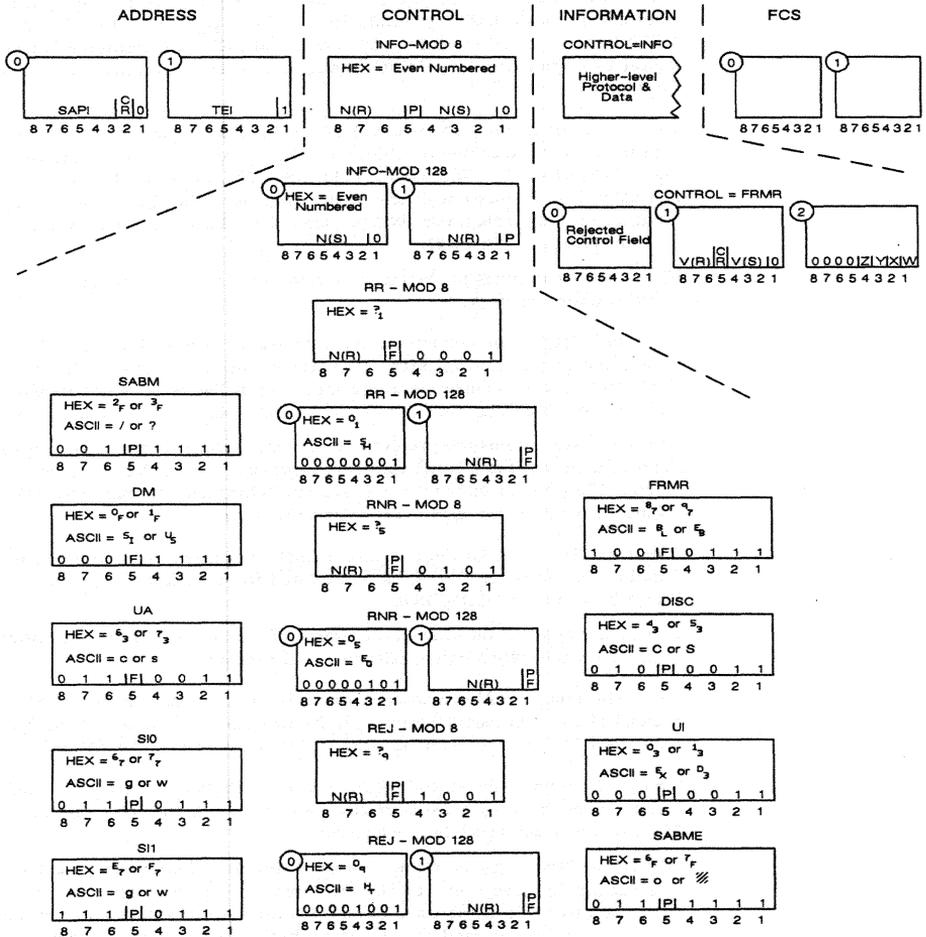

Figure 39-4 Frame fields in LAPD.
MOD 8 uses sequence numbers 0–7. MOD 128 adds an extra byte to the control field in INFO, RR, RNR, and REJ frames. See Figure 39-4. This extra byte allows sequence numbers in a range of 0–127.
2. *SAPI*. The Service Access Point Identifier (SAPI) is given in the next column. The SAPI is a network link-station address that appears in a six-bit field in the first frame-address byte: see Figure 39-4.
3. *TEI*. The Terminal Endpoint Identifier (TEI) is the address of a link station on the user side. It occupies seven bits in the second frame byte inside the leading flag (see Figure 39-4).
5. *Type*. The mnemonic (abbreviated) names for thirteen frame types as they appear in the TYPE column of the protocol trace are shown in Figure 39-4 under "CONTROL." The control field, therefore, indicates the frame type. If a control octet does not fit any of the patterns in the figure, the frame is listed in the TYPE column as UNKWN followed by the hexadecimal value of the control byte: UNKWN=47.
6. *N(R) and N(S)*. One column on the frame-level trace is devoted to N(R) values, and one column to N(S). The frame types that include N(R) or N(S) fields in their control fields are indicated in Figure 39-4. N(R) and N(S) occupy three bits each in modulo 8, seven bits each in modulo 128.
7. *P and F*. The status of the poll or the final bit is given in the P/F column. Whether this bit is the P or F bit is indicated for most frame types in Figure 39-4 (under "CONTROL").
1. **Info frames.** INFO frames differ for MOD 8 and MOD 128 numbering schemes. (See Figure 39-4.) For spreadsheet conditions to match I-frames accurately, the correct numbering system (**Mode of Operation**) should be selected on the LAPD Frame Level Setup screen.
2. **Supervisory frames.** The three supervisory-frame types that can be searched for on the data leads are RR (Receive Ready), RNR (Receive Not Ready), and REJECT. These frames always contain N(R) fields (see Figure 39-4) and serve mainly to acknowledge or reject INFO frames.
4. **Sequenced information frames.** Sequenced information frames (SIO and SI1) have a 1-bit sequence-numbering field that toggles 0 (SIO) and 1 (SI1). (See Figure 39-4.) These frames are used instead of INFO frames in MOD 2 operation where the limit for outstanding information frames is 1.